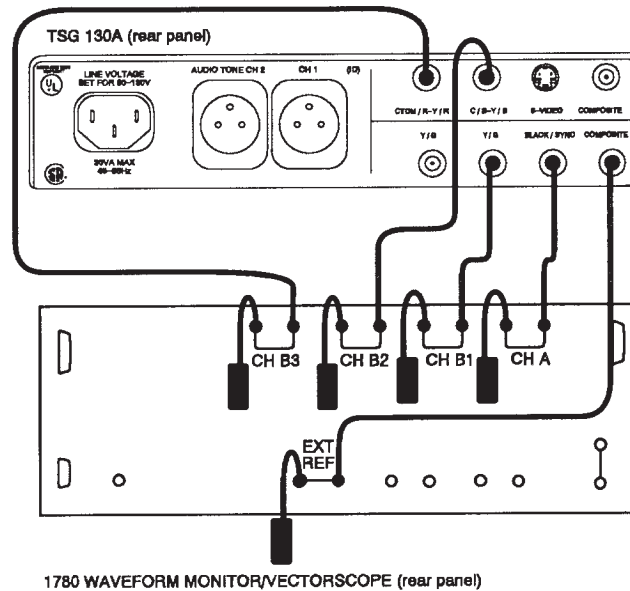

Figure 5-7: Setup to check black burst output
- a. Connect the equipment as shown in Figure 5-7.